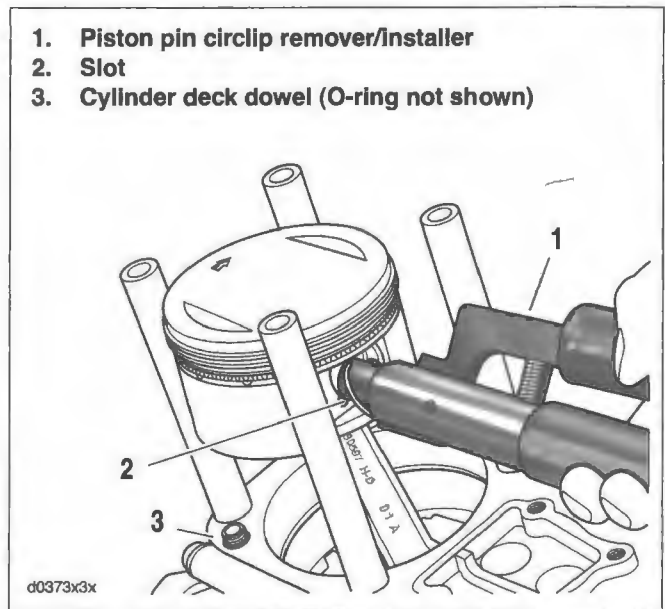

Figure 3-31. Pin Circlip Remover/Installer (Part No. HD-42317-A)
- d. See Figure 3-31. Insert the tool (1) into the piston pin bore until claw is aligned with slot (2) in piston.
1. See Figure 3-31. Apply a very thin film of clean H-D 20W50 engine oil to new O-rings for both cylinder deck ring dowels (3). Install and verify that O-ring is properly seated in groove.